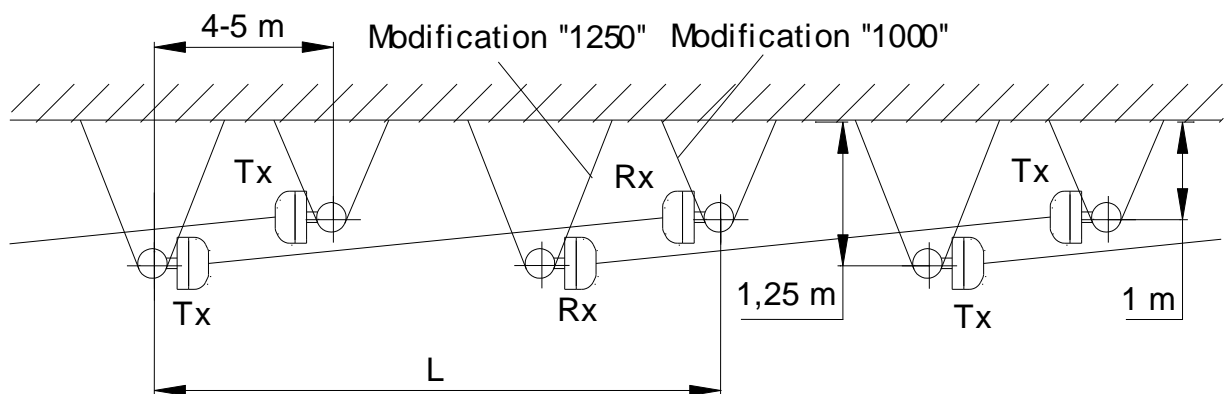

Figure 2.6 – Example of installation of the sensors BARRIER-M (general purpose) on BRACKET-1000, BRACKET-1250 with overlapping the detection zones
- 2.3.5.4 The example of installation of bistatic sensors using BRACKET-1000, BRACKET-1250 with overlapping the detection zones to avoid dead zones is given in Figure 2.6. In case of overlapping the detection zones, the bracket of the adjacent sector is located within the detection zone of the sensor. The bracket of the adjacent sector reduces the signal a little, so it is required to reduce the length of the sensor detection zone (L) for 1/3 respectively to the parameters given in Table 1.1.